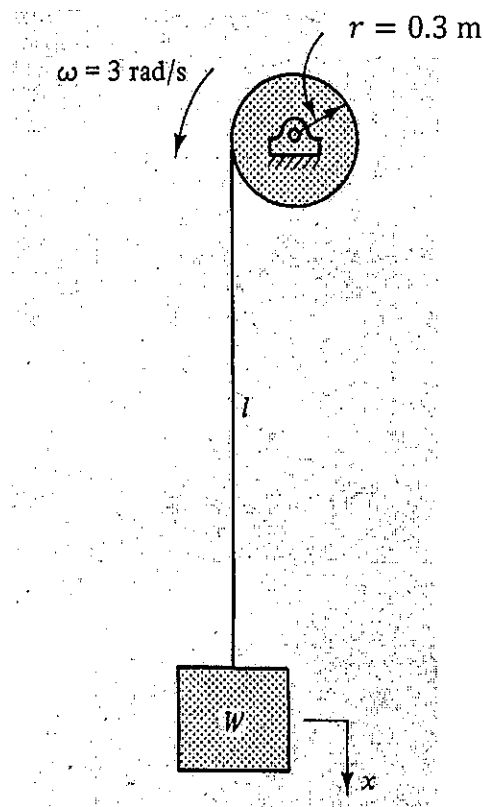

Figure Q4(a)
- (a) As shown in Figure Q4(a), an elevator weighing $W = 35.6 \text{ kN}$ is attached to a steel cable that is wrapped around a drum rotating with a constant angular velocity of 3 rad/s . The radius of the drum is 0.3 m . The cable has a cross-sectional area of $6.45 \times 10^{-4} \text{ m}^2$ and an effective modulus of elasticity of $E = 8.29 \times 10^{10} \text{ N/m}^2$. A malfunction in the motor drive system of the drum causes the drum to stop suddenly when the elevator is moving down and the length l of the cable is 15 m . Assuming the damping ratio of the cable is $\zeta = 0.05$. Determine the maximum stress σ_{\max} in the cable.